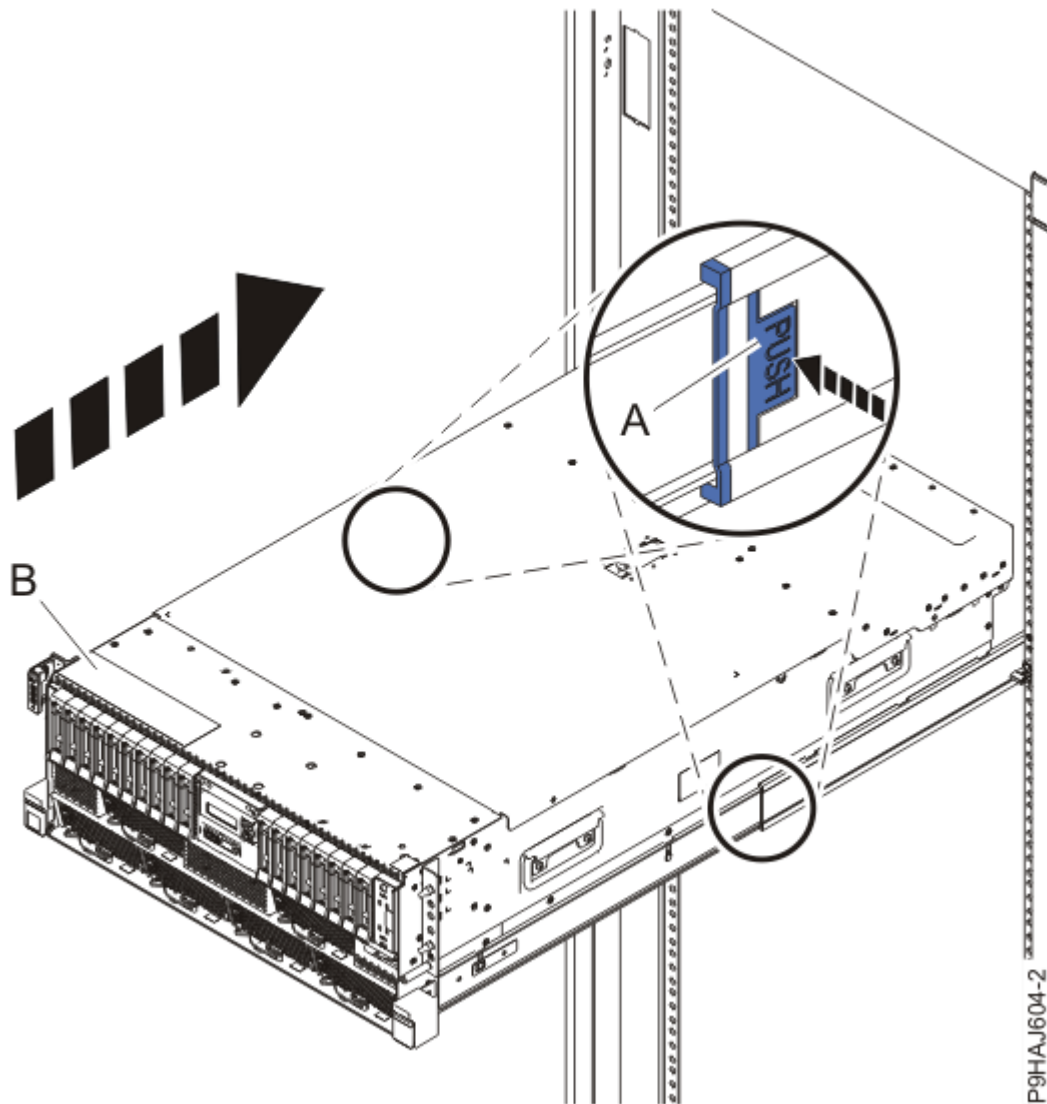

Figure 13. Placing the system into the operating position
3. For a rack-mounted system, unlock the blue rail safety latches **(A)** as shown in Figure 13 on page 16 by pushing them inward.